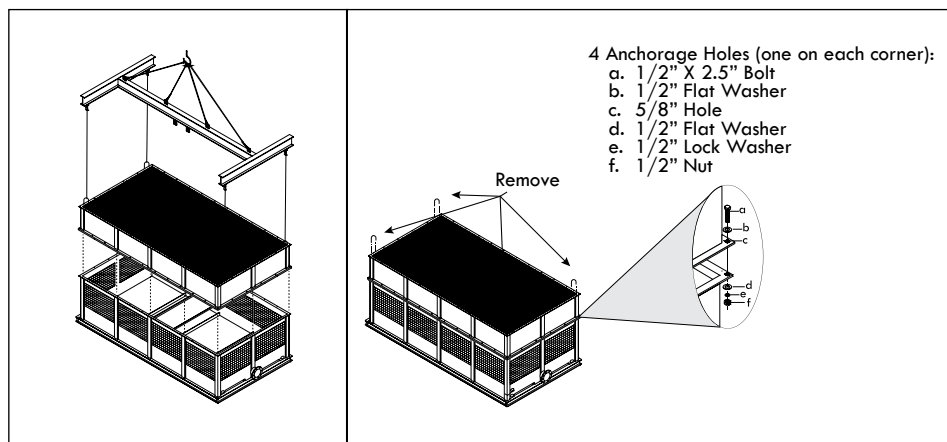

Figure A-49: Lower body section installation for an RTG-D, RTG-E, RTGTC-G and RTGTC-H models.
- J. Only if your Tower is an RTG-D, RTG-E, RTGTC-G or RTGTC-H model:** It includes an additional part of body section (Lower Body section). Place Lower Body section on top of basin section, then bolt down and secure the horizontal flanges with the stainless steel nut and bolt sets supplied by REYMSA (see figure A-49).
- K.** After the Lower Body section has been set in place, remove the U-bolts located on the flange before installing the Upper Body section (see Figure A-49).